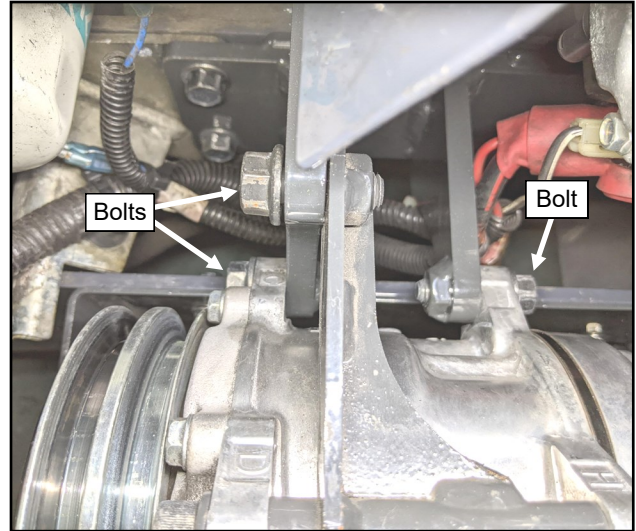

Fig. 6.1 (Install Compressor)
- 6.1 Move compressor into location on the left side of the engine and secure to the bracket with the hardware removed on step 1.8. See figure 6.1. Do not tighten hardware at this time.